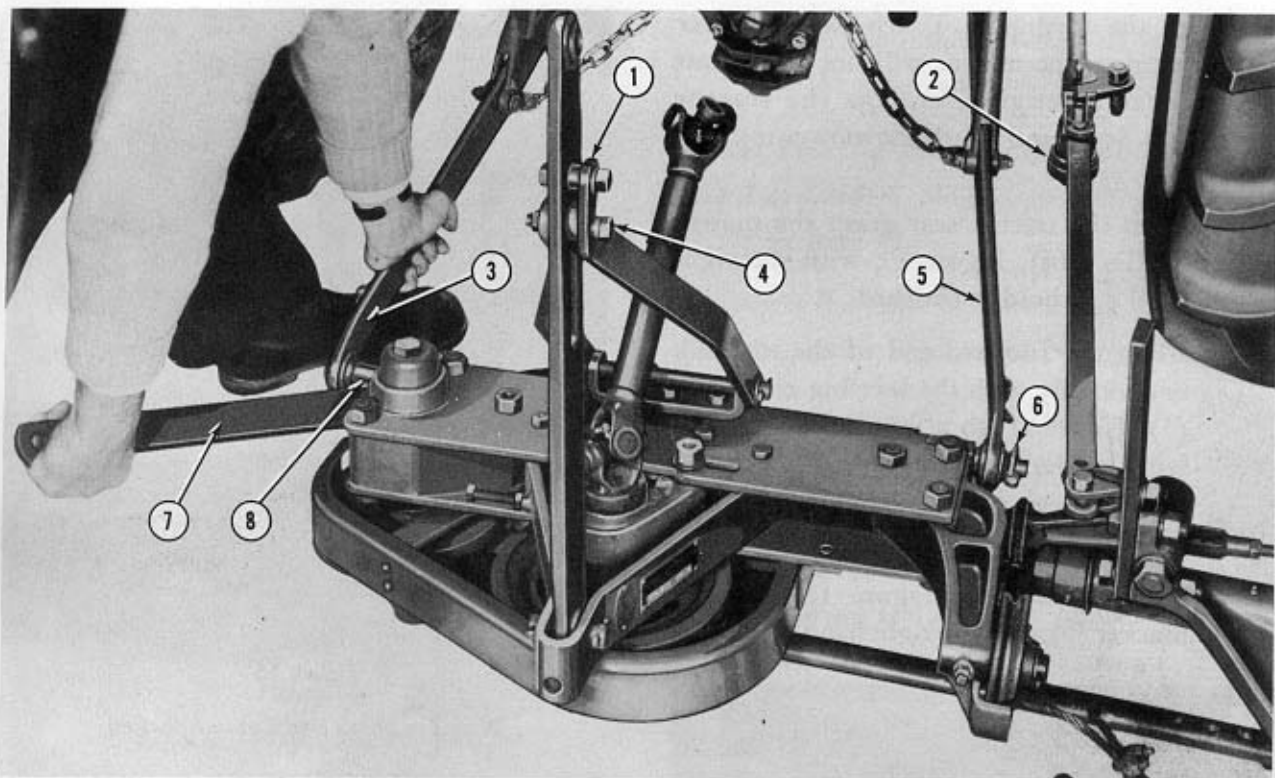

Figure 13
- a. Position the mower in a cleared area with the safety release housing (2), Figure 13, turned down and the mower main frame tilted back as shown. Lock the anchor strap pin (4) with the transport lock (1).
- b. Back the tractor up to the mower and align the right lower link (5) with the pin (6) by turning the tractor leveling crank. Attach the link and secure with the linch pin provided.
- c. Pry the pin (8), Figure 13, into alignment with the left tractor link (3) using the stabilizer bar (7) as shown, and slip the left tractor link on the pin.
- d. Attach the forward end of the stabilizer bar (7), Figure 13, to the left hand anchor bracket as shown in Figure 10 and secure with the linch pin.
- e. Level the mower main frame with the tractor leveling crank and attach the rear end of the stabilizer bar (7) to the pin (8), Figure 13. Secure with the linch pin provided.